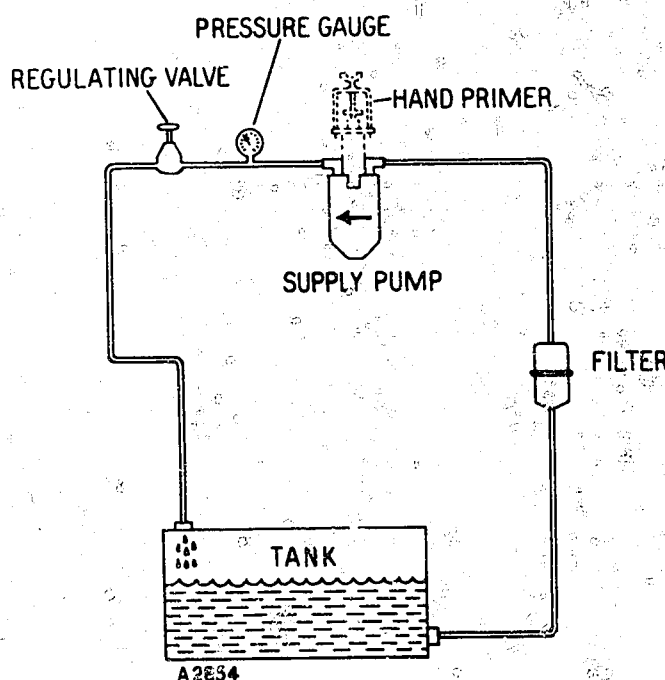

FIGURE 4 - REGULATING PRESSURE TEST SETUP
- 2) Connect a hose from the oil tank through a filter and into the suction side of the supply pump (Refer to Figure 4).
- 3) Connect a hose from the supply pump outlet through a 0 - 100 PSI pressure gauge and a manually operated regulating valve and into the tank (Refer to Figure 4).